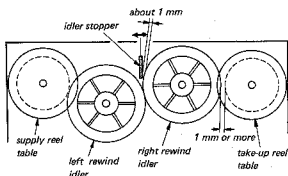

Fig. 4-12. Rewind idler adjustment
- Set the Function Lever to STOP. Check that the Right Rewind Idler is clear of the Idler Stopper by 0.5 to 1 mm. See Fig. 4-12.